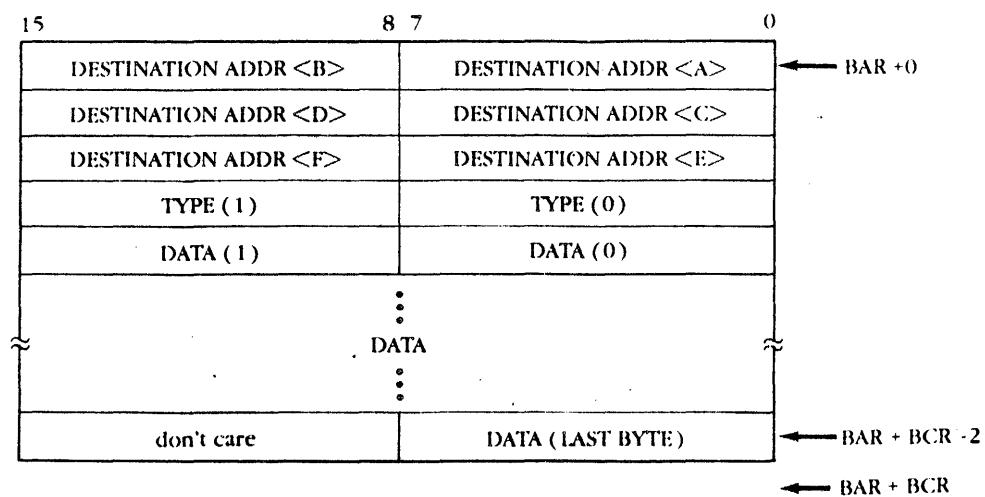

Figure 3-12. Transmit Data Format
The required data format for frame transmission is shown in Figure 3-12 under the Load Transmit Data and Send (51) command. Notes:
See Figures 3-12 and 3-12a.